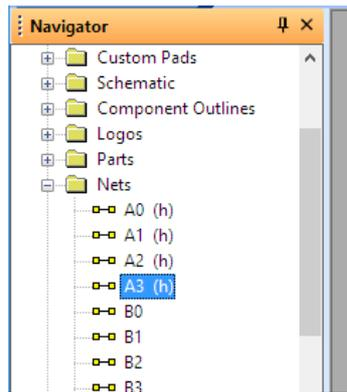

Figure 146
- Sig** When selected (ticked), all the unroutes that have not been defined as power rails will be visible, unless they have been "hidden" (right click a net from the the Nets folder of the navigator, then select *Hide Net Unroutes* - the net will be marked in the navigator with "(h)" to indicate it is hidden Figure 146).
Pwr When selected (ticked), all the unroutes that have been defined as power rails will be visible, unless they have been “hidden” (right click a net from the the Nets folder of the navigator, then select *Hide Net Unroutes* - the net will be marked in the navigator with “(h)” to indicate it is hidden see Figure 146).